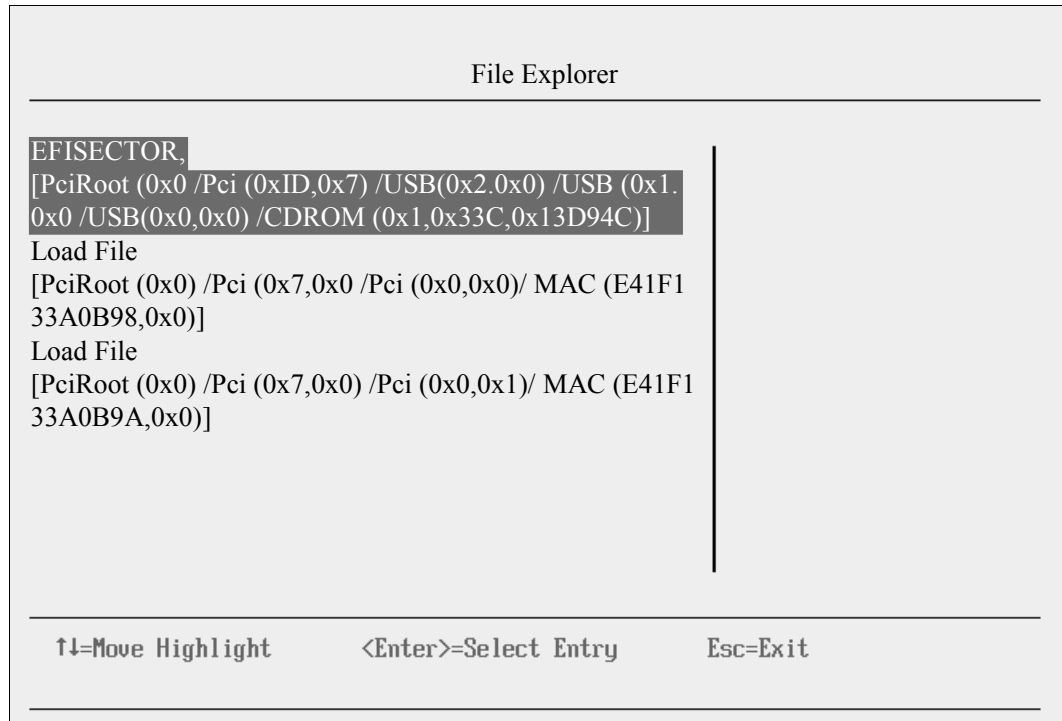

Figure 9-125 Selecting the CD
4. In the File Explorer panel (Figure 9-125), select **EFI**SECTOR and the associated information and then press Enter.